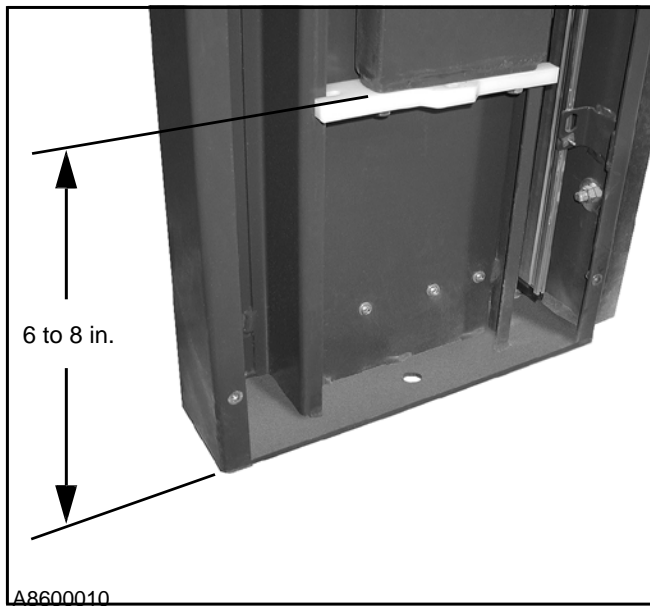

Figure 15
- Securely block each counterweight 6 to 8 in. above the bottom of the side column. (See Figure 15.)
IMPORTANT: The 6 to 8 in. mounting height for each counterweight, as indicated in Figure 15, is adequate for most Turbo-Seal Self Repair doors. However, for extra-wide or -short doors, the counterweights may have to be adjusted closer to the bottom of the side column.